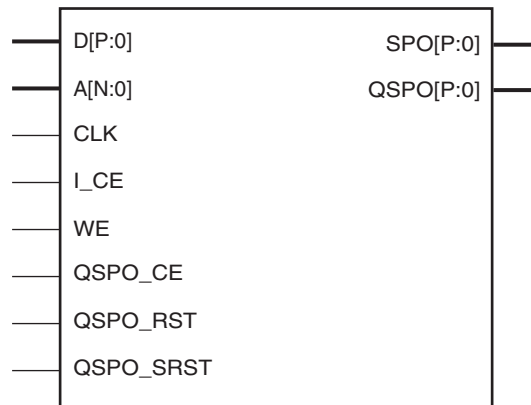
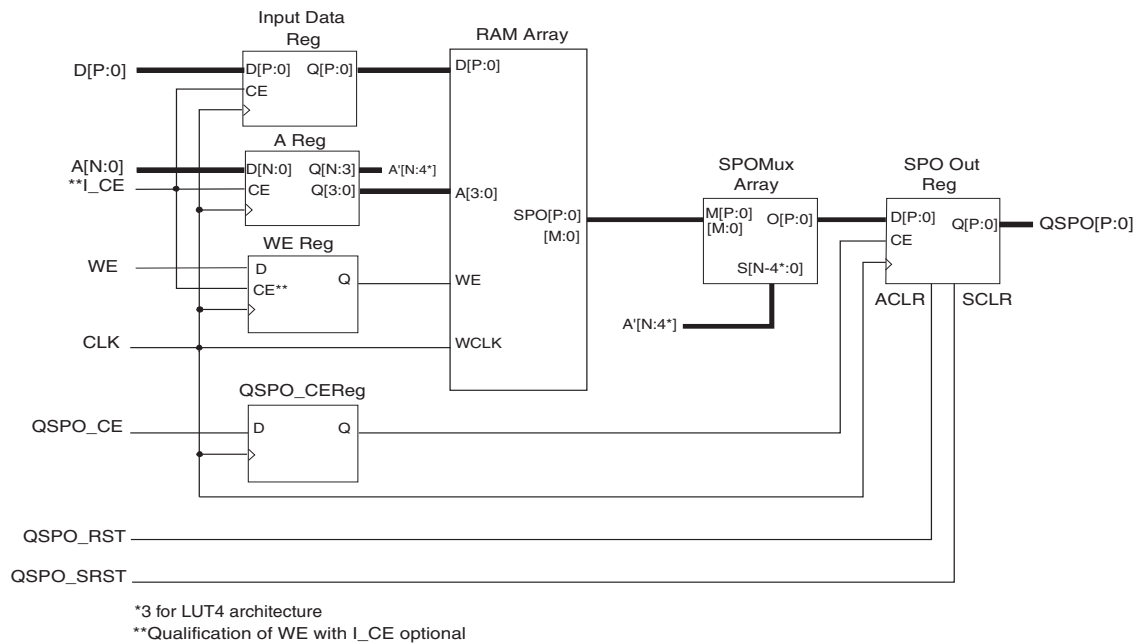

Figure 3: Distributed Single-Port RAM Schematic Symbol
Figure 4: Distributed Single-Port RAM Module Schematic
The distributed single-port RAM uses the single-port distributed RAM resource of the LUT. Writes to the Single-Port RAM are synchronous to the clock (CLK). However, read operations can be asynchronous (SPO) or synchronous to the clock (QSPO). Figure 3 illustrates the distributed single-port RAM schematic symbol, and Figure 4 illustrates its internal implementation. If a pipeline register is added to a registered core (not illustrated), the additional register is re-timed into the SPO MUX array. For timing
- **Single-Port RAM.** Figure 4 illustrates a schematic of the structure of the single-port RAM modules. The address and data registers are optional (controlled by the setting of the Input Options parameter). Output registering is also optional (controlled by the setting of the Output Options parameter). The resets and clock enables are optional. The clock CLK is always required because writes to the single-port RAM are synchronous to that clock.